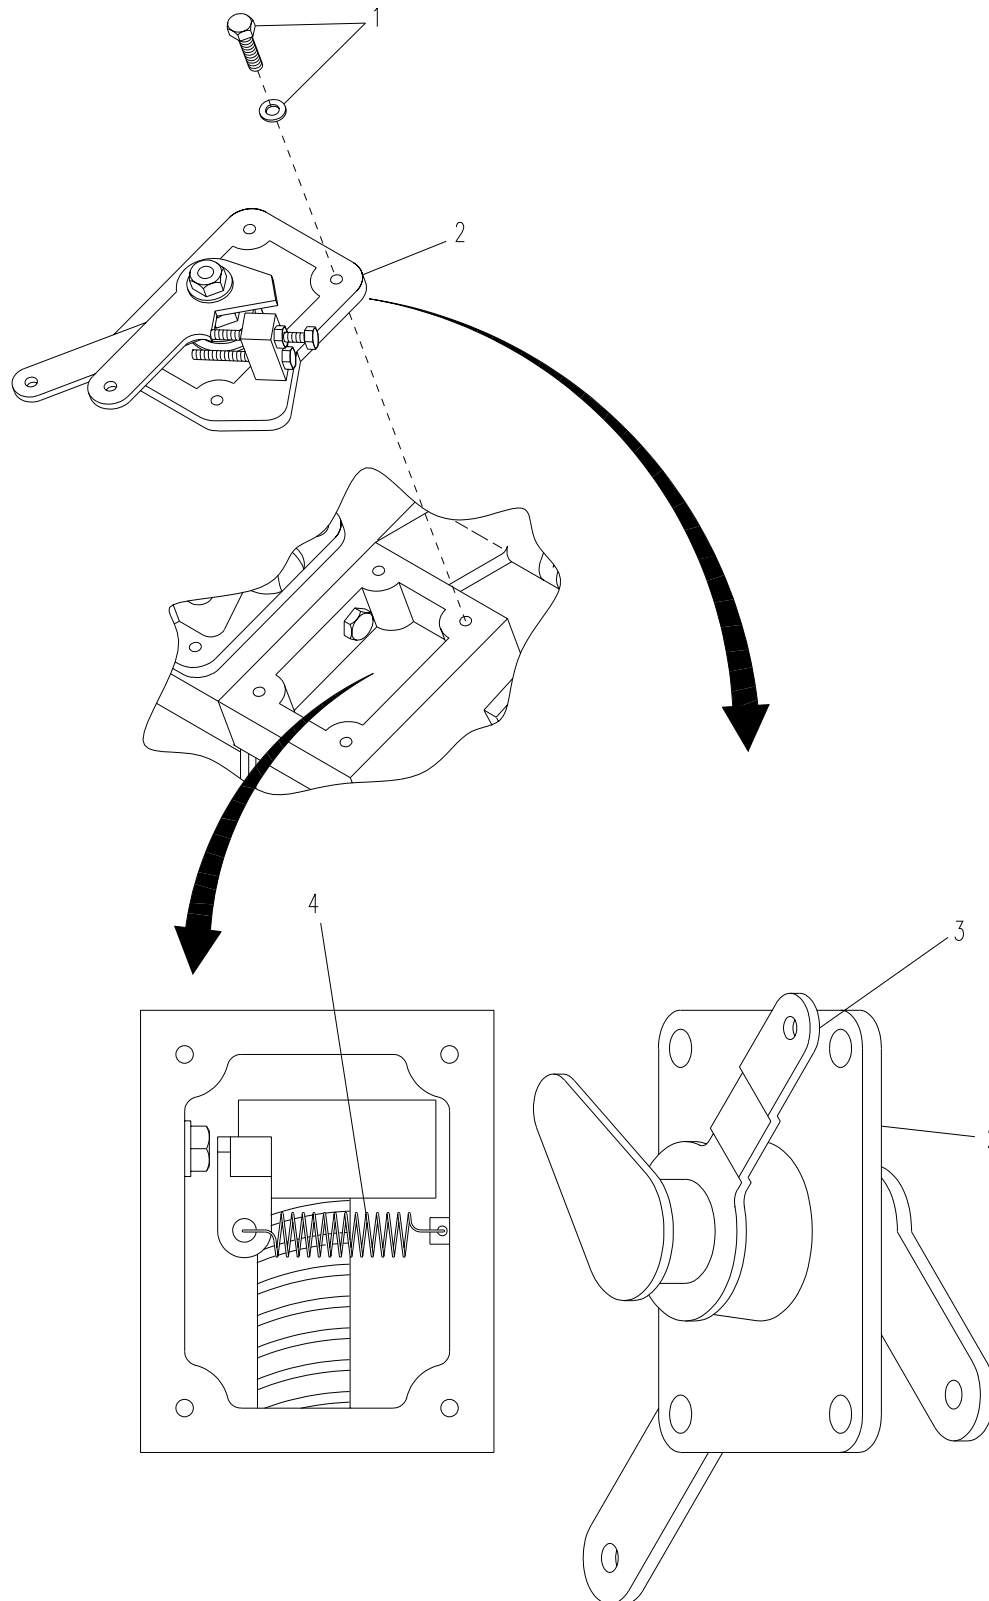

Figure 6-8. Speed Control Plate
- a. Remove four bolts and washers (1, Figure 6-8) securing speed control plate (2) to engine.